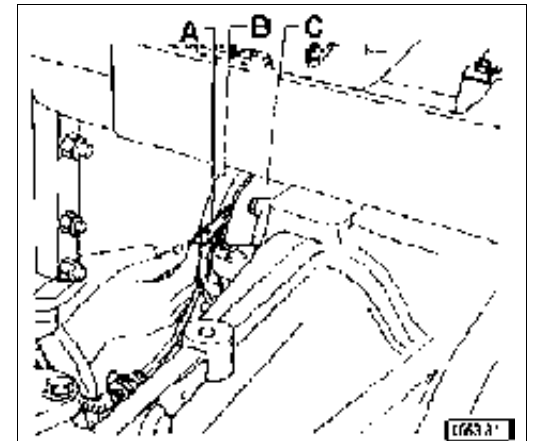

Fig. 5 - Checking the front axle end play.
- Use thickness gauge **A** (see Fig. 5), to make sure that the end play between shoulder ring **B** and differential housing **C** is within specifications given in the related table (see page 195). If the end play is correct loosen the four nuts securing front swivel support **C** to drive axle **A** and add or remove a number of shims **B** enough to obtain the recommended end play.